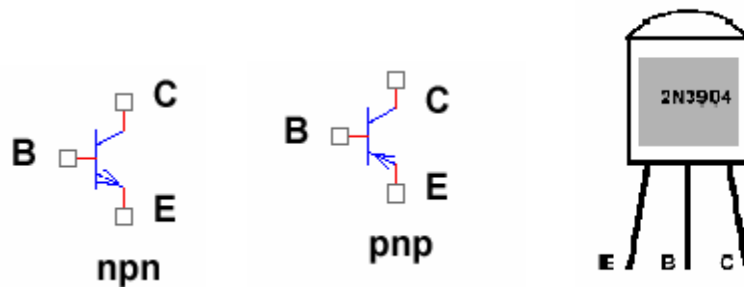

Figure 6.1: The bipolar junction transistor.
1. Connect the circuit shown in Figure 6.1.